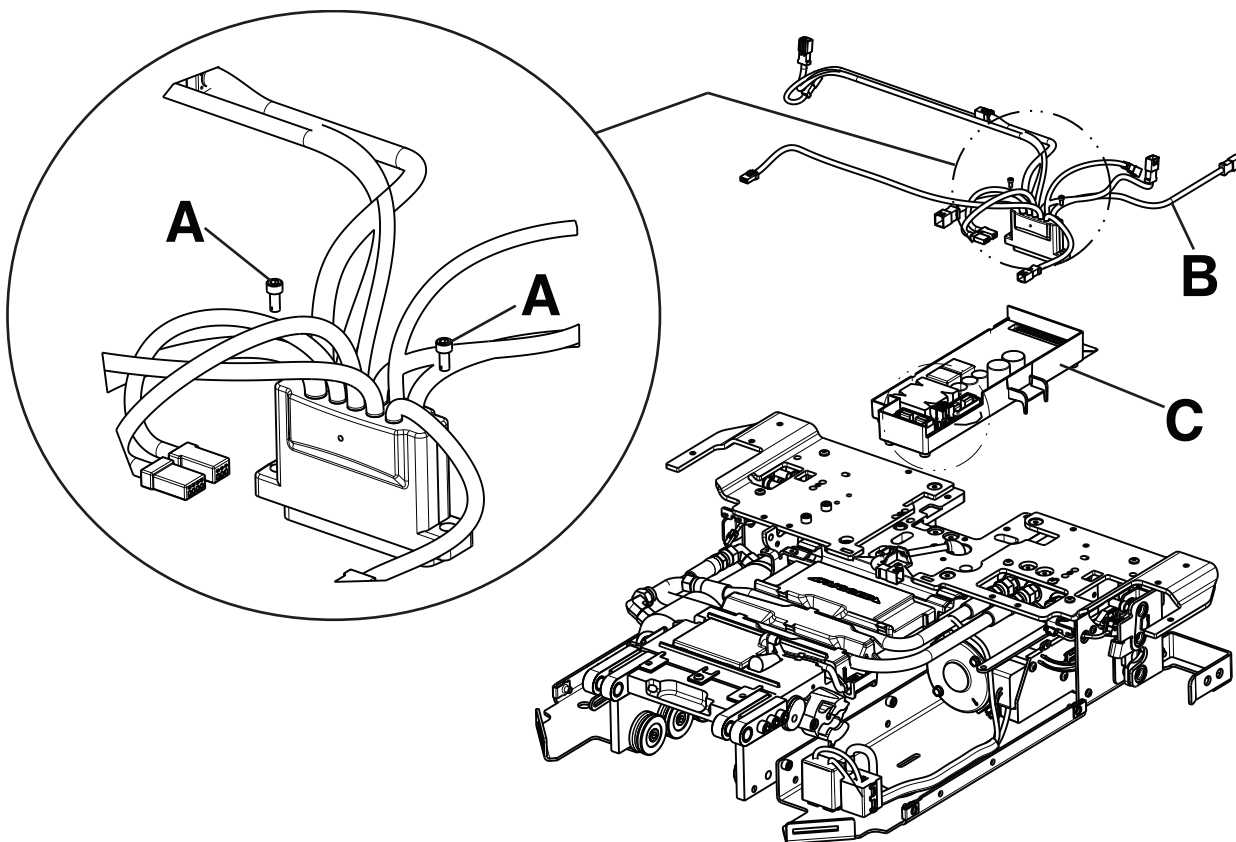

Figure 10: Control board assembly
- Using a 3/32" hex wrench, loosen (do not remove) the two screws (A) that secure the main cable assembly (B) to the control board assembly (Figure 10 on page 45).
- Unplug all of the other cables from the control board assembly (C) and then remove the control board assembly (Figure 10 on page 45). Discard the control board assembly.